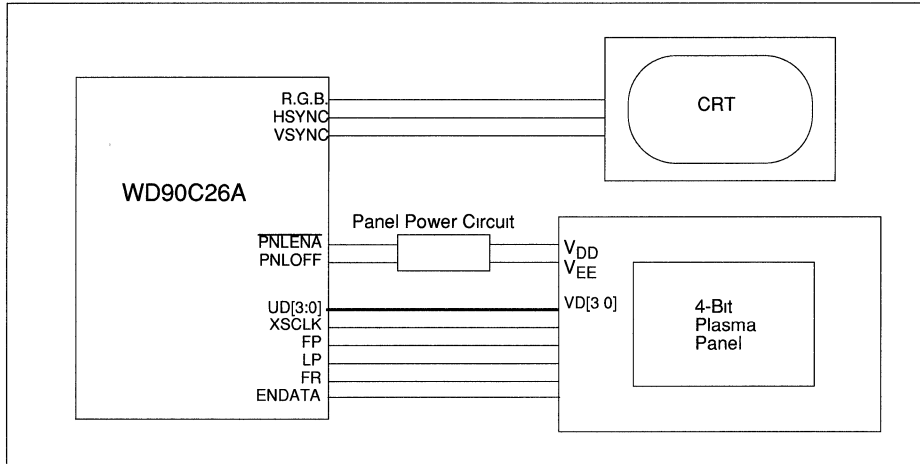

FIGURE 6-25 4-BIT MONOCHROME PLASMA PANEL INTERFACE
- 4-Bit Monochrome Plasma Panel Interface (Figure 6-25)